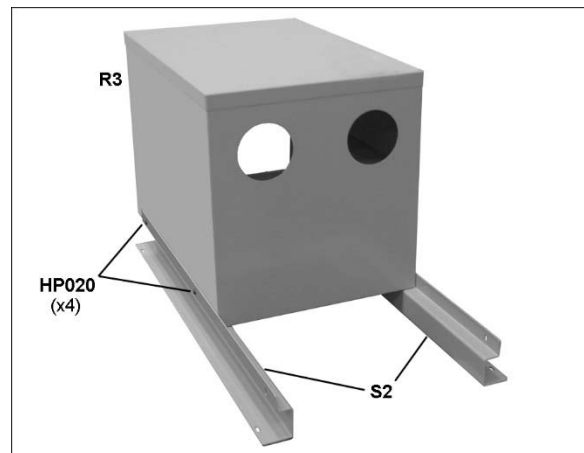

Figure 7-12
8. Install lower supports (S2) to bottom edge of storage cabinet in the orientation shown in Figure 7-12.